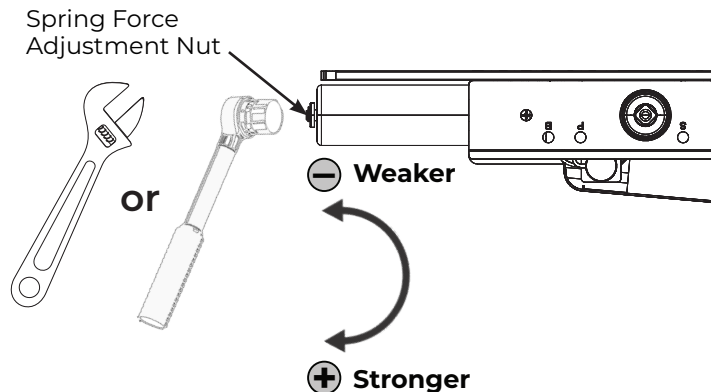

Figure 27 View of Left Hand operator from ceiling looking down
- Using an adjustable wrench or ratchet with an 11/16" socket, turn the nut in end of closer body tube to desired force. (Figure 27)